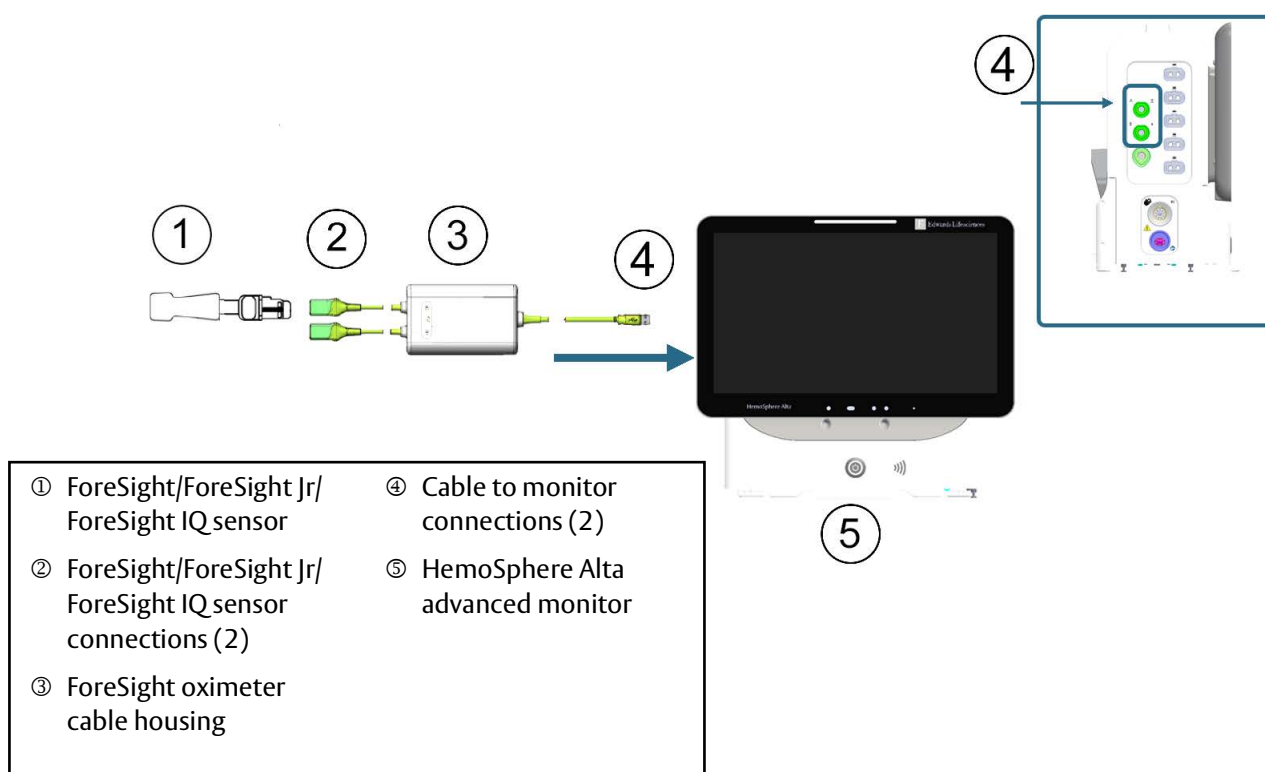

Figure 12-8 Tissue oximetry monitoring connection overview
- 2 Ensure proper orientation, then plug the ForeSight oximeter cable into the tissue oximetry port on the left panel of the monitor. See ④ in figure 12-8 on page 204. Up to two ForeSight oximeter cables can be connected to each port.